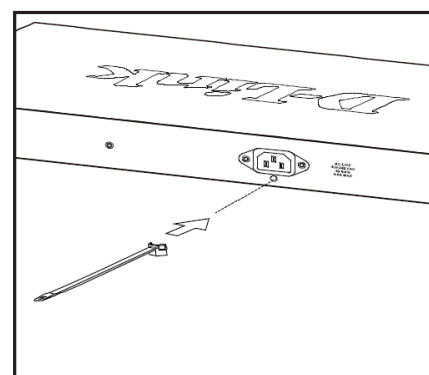

Figure 7. Insert the Tie
- With the rough side facing down, insert the tie into the hole below the power socket as shown in **Figure 7**.